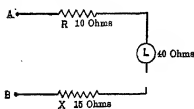

Fig. 30. The pieces  $R$ ,  $L$  and  $X$  are in series.
**Example 2.** In the series circuit of Fig. 30, 3 amperes are flowing.
**18. Application of Ohm's Law.** It should be noted that in solving the Example on page 28, Fig. 30, Ohm's Law was used in (a) to find the voltage necessary to force the current through the whole circuit of the three resistances, *R*, *L* and *X*.